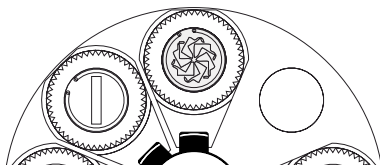

Fig.8
3. Turn the gobo wheel as indicated in fig.8 in such a way that the gobo to be replaced is on top.